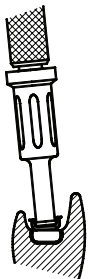

Fig. 8
8. Use the Locator Male Removal Tool (attached to the Locator Core Tool, Zest order #8393) to remove the Black Processing Male from the metal denture cap. The sharp circular edge on the end of the removal tool should be wedged tightly down into the very bottom of the plastic male so that it will catch the inside of the black plastic insert and pull it at an angle out of the metal housing. (Fig. 8) To discard the nylon male from the new tip on the Core Tool, point the tool down and away from you and tighten the new Male Removal Tool clockwise back onto the Core Tool. This will activate the removal pin and dislodge the nylon male from the tip end of the Male Removal Tool.